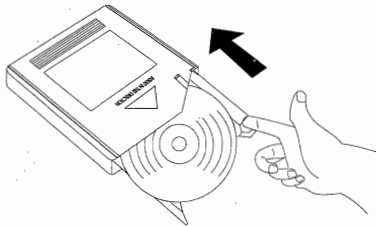

Fig. 15: Closing the 3-disc magazine
- Push the tray back into the magazine until it locks into place. (See Figure 15.)